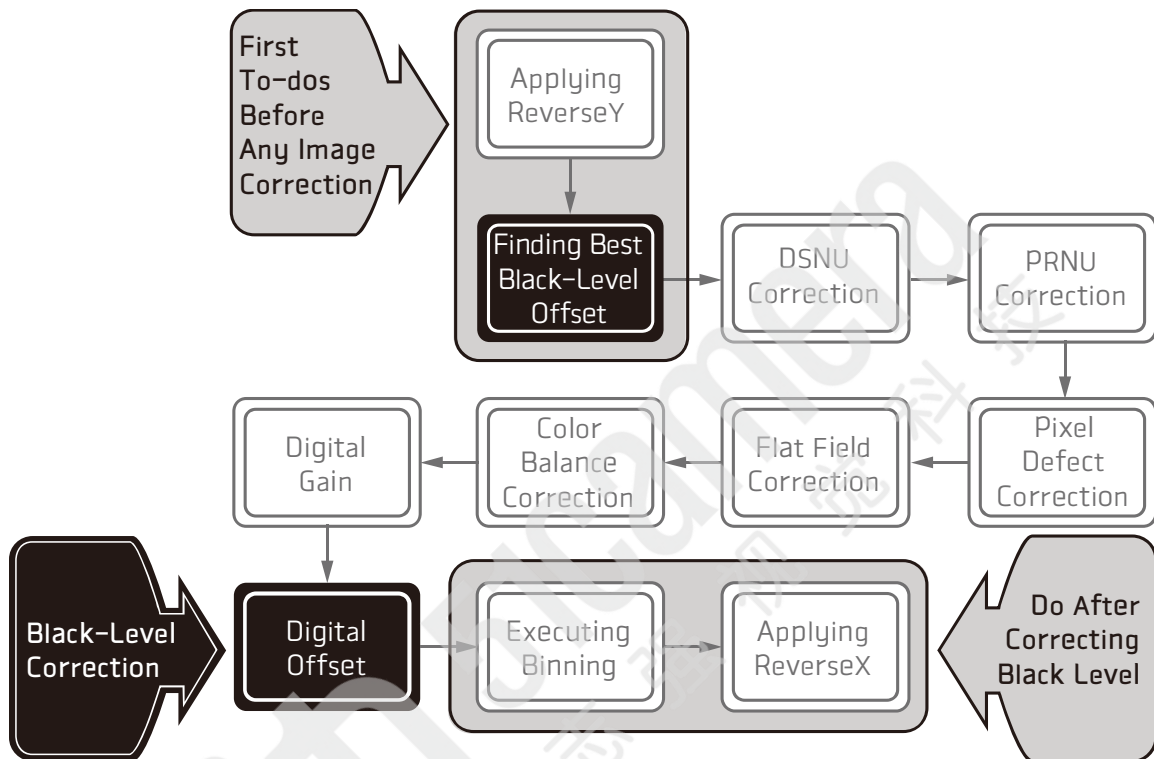

Figure 9-8 Sequence of signal processing and Black Level
5. Before set the **BlackLevel** value, refer to the sequence described in **Figure 9-8** below and finish the other necessary jobs related to acquired images.
The product handles signals basically in the sequence described in Figure 9-8 above. For instance, no need to work again if you did the DSNU/PRNU correction or others prior to the Black Level job, however, it needs to be done again in the case that it was finished before the DSNU/PRNU correction or others.